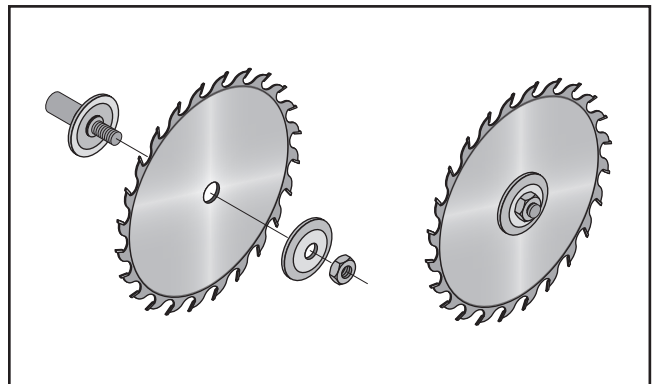

Figure 79. Main blade installation and order of assembly.
6. Install the blade as shown in **Figure 79**, making sure the teeth face toward the scoring blade. **DO NOT** overtighten the arbor nut.